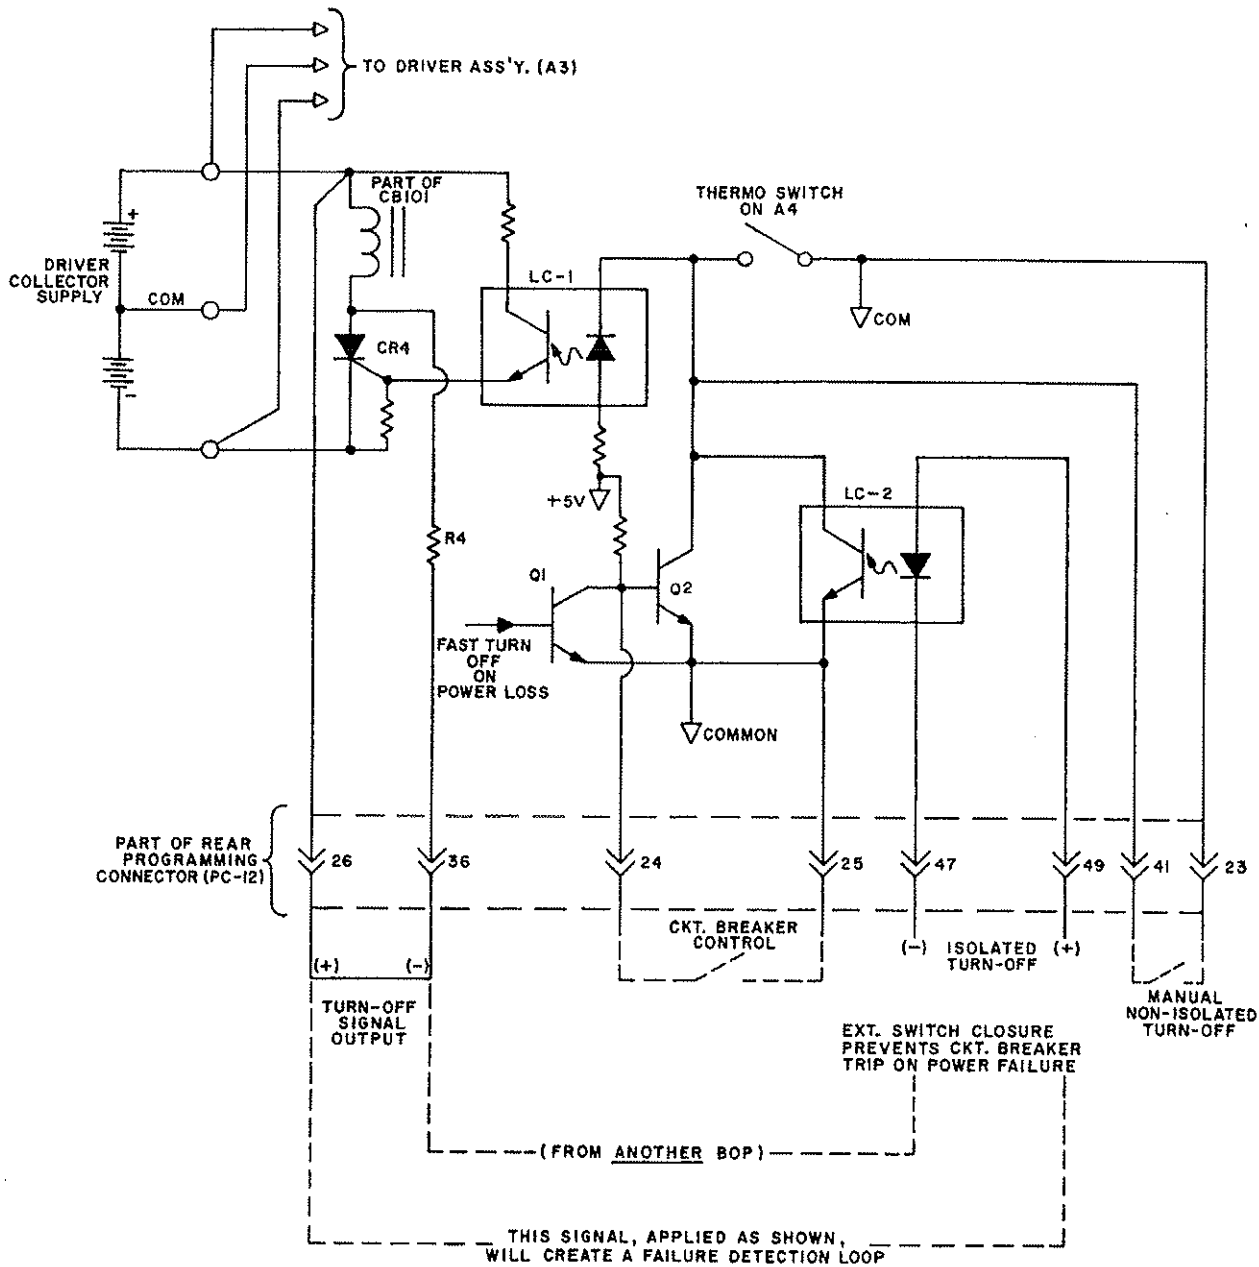

FIG. 4-3 CIRCUIT BREAKER CONTROL CIRCUIT, SIMPLIFIED DIAGRAM.
4-25 THE CIRCUIT BREAKER CONTROL CIRCUIT (REFER TO FIG. 4-3). The BOP is protected by the dual-coil CIRCUIT BREAKER/ON-OFF SWITCH (CB101). The current sensing coil of CB101 is connected in series with the primary winding of T201, thus detecting overcurrents reflected into the primary circuit and subsequently tripping the circuit breaker. The voltage sensing coil of CB101 is connected in series with an SCR (CR4) across the DRIVER COLLECTOR SUPPLY. If the SCR is triggered "on", the voltage sensing coil is energized and trips the circuit breaker. The SCR (CR4) can be triggered in several ways as described in paragraphs 4-25A thru 4-25D.
- D) A manual, non-isolated turn-off is provided which, when implemented with an external switch contact as shown in FIG. 4-3, will energize the diode in the first opto coupler (LC-1), thus providing the SCR turn-on.